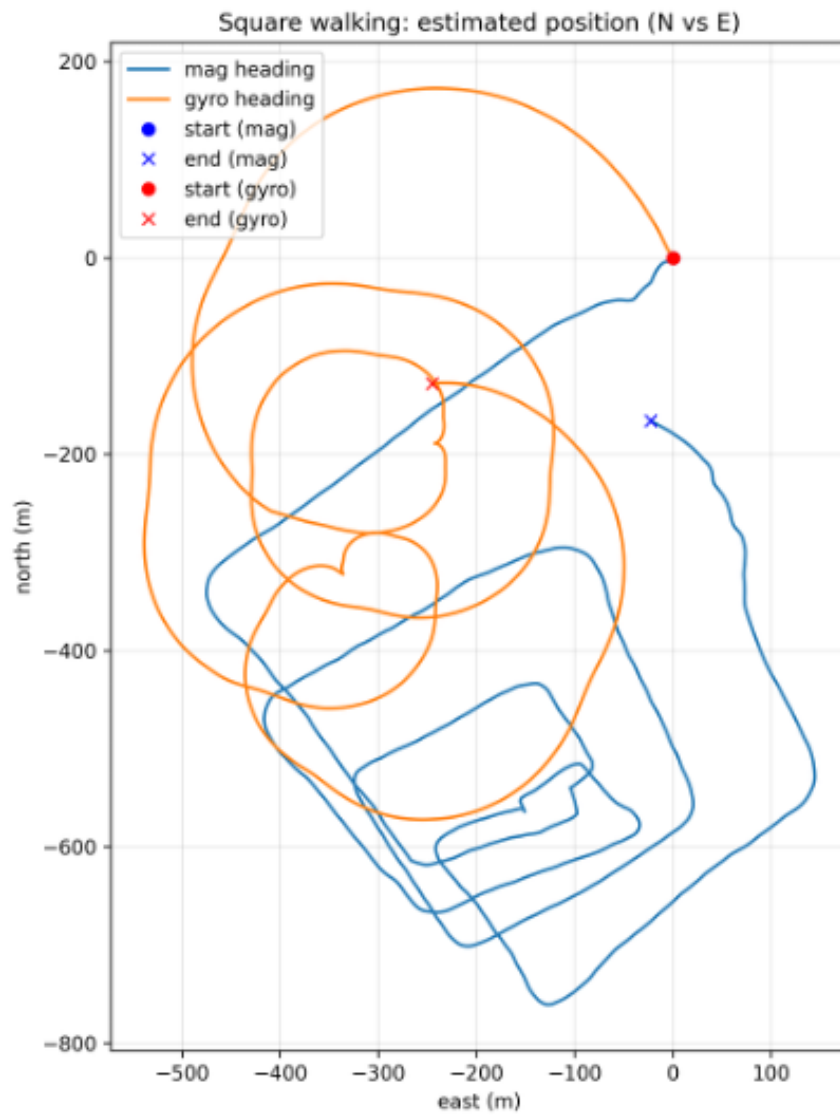

Figure 16: Reconstructed trajectory: Northing vs. Easting position using magnetometer and gyro headings
**Task:** Using your estimates for heading from the magnetometer and the gyro, along with your twice integrated acceleration in X, make a plot of your N vs. E position (Fig. 16) using different marker types or colors for the magnetometer heading and the gyro heading.